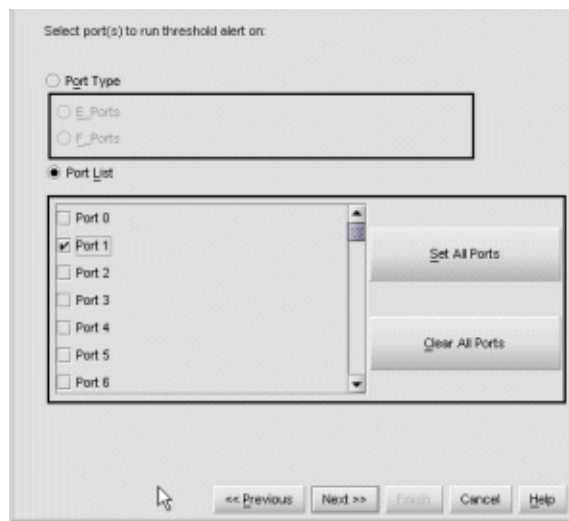

Figure 56: New Threshold Alerts dialog box—third screen
9. Click **Next**. A new screen displays for selecting ports for the alerts, as shown in Figure 56.